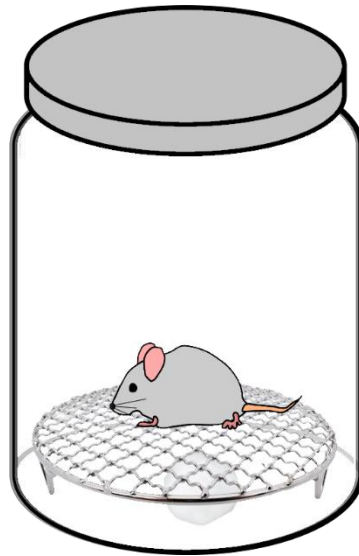

Figure 1:
- e. Cover the isoflurane-soaked cotton ball or gauze with a mesh platform to prevent the rodent from coming into contact with the anesthetic agent, which can cause localized discomfort or irritation to the animal's skin (Figure 1).